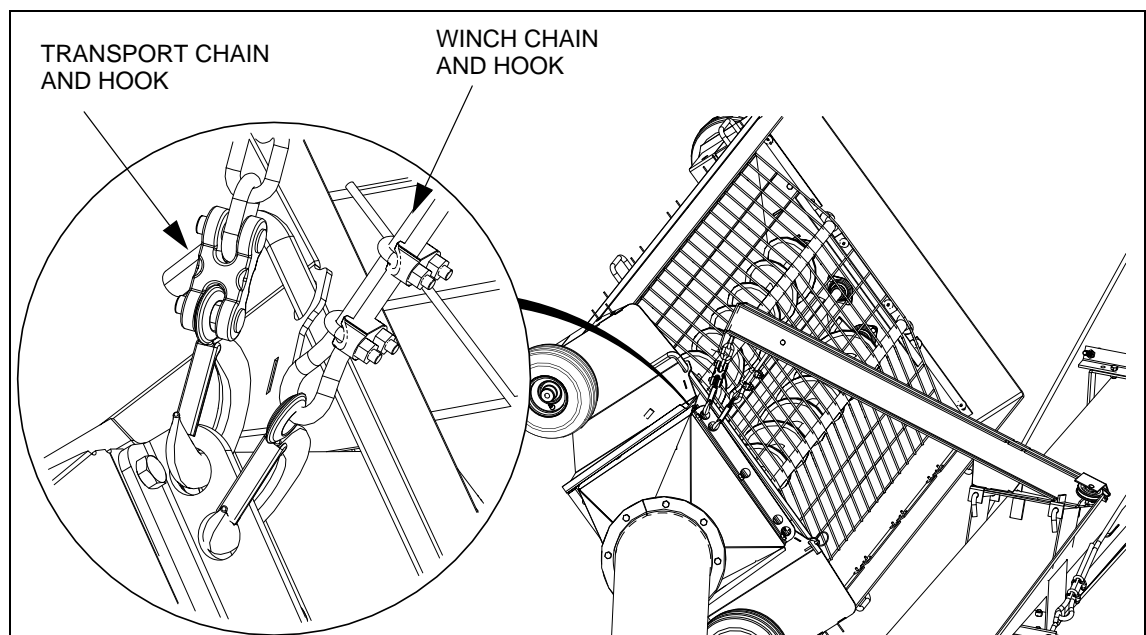

Figure 3.44 Transport Position, Safety Chain and Winch Hook
8. To place hopper into transport position, attach cable hook to hook on the hopper transition, then fully raise hopper with intake side facing main auger. Secure hopper to lift arm by connecting the safety chain (Figure 3.44) to the hopper cable attach bracket.